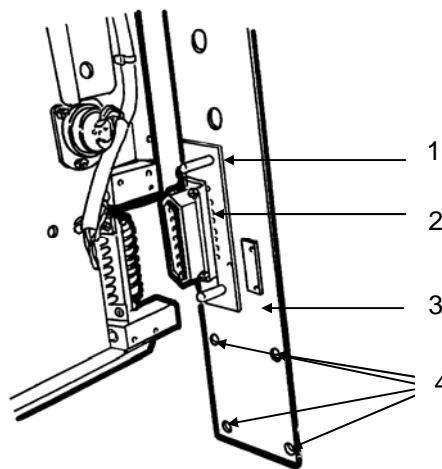
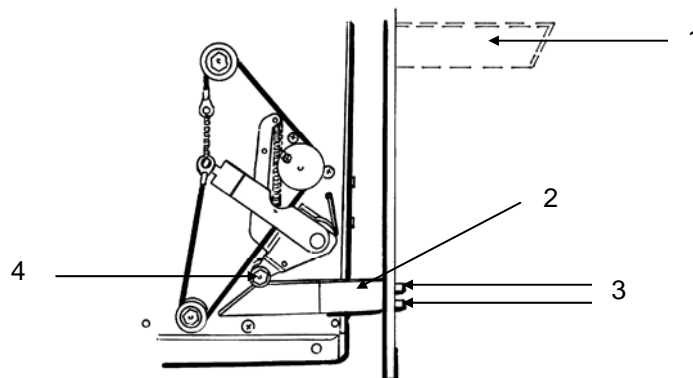

Fig. 2-5 Plate with U-shaped bracket and connector
Fig. 2-6 Plate with striker
- Unscrew the screws to fix the plate (Figure 2-5, item 3) and remove the plate from the Bucky.
- Unscrew the screws to fix the U-shaped bracket (Figure 2-5, item 1) from rear side of the plate and remove the U-shaped bracket with connector (Figure 2-5, item 2) from the plate (Figure 2-5, item 3) and mount it again at the opposite rear side of the plate.
- Unscrew the screws (Figure 2-6, item 3), remove the striker (Figure 2-6, item 2) from the plate (Figure 2-5, item 3) and mount it again at the opposite rear side into the middle slot of the plate (see Figure 2-6, item 1).